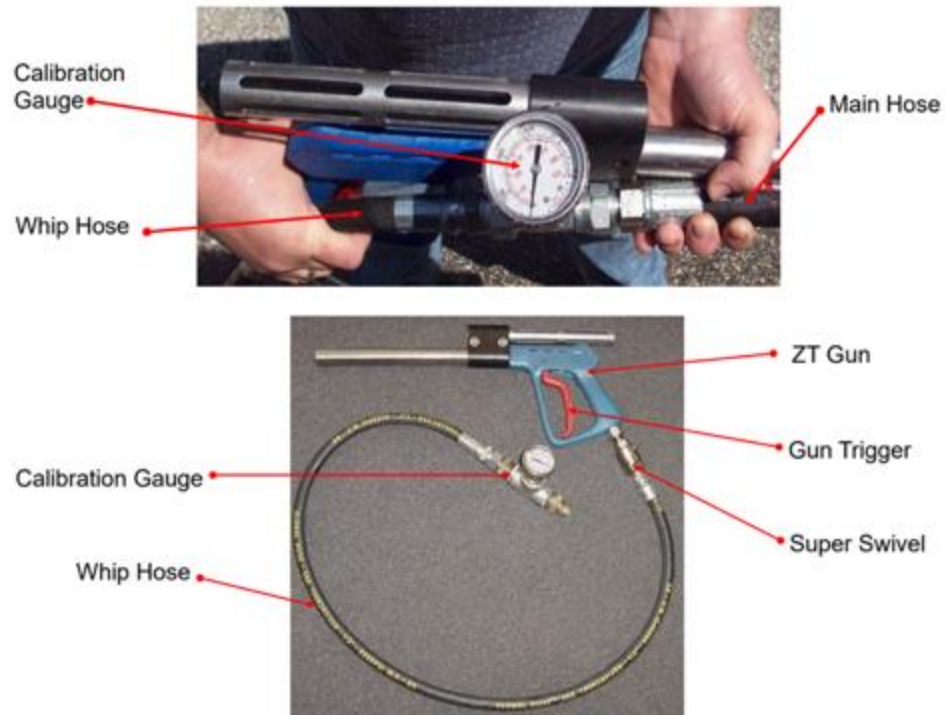

Figure 5.2 – Zero-thrust gun Pressure Calibration
CaviBlaster zero-thrust gun, (See Figure 5.2) the water pressure should be 2,500-psi (172 bar) with the zero-thrust gun submerged and the zero-thrust gun trigger in the open or “ON” position. For best results, repeat this calibration procedure if cleaning performance degrades, or every 3 months at a maximum.
- Hold the zero-thrust gun tight and observe the calibration gauge (See Figure 5.2).